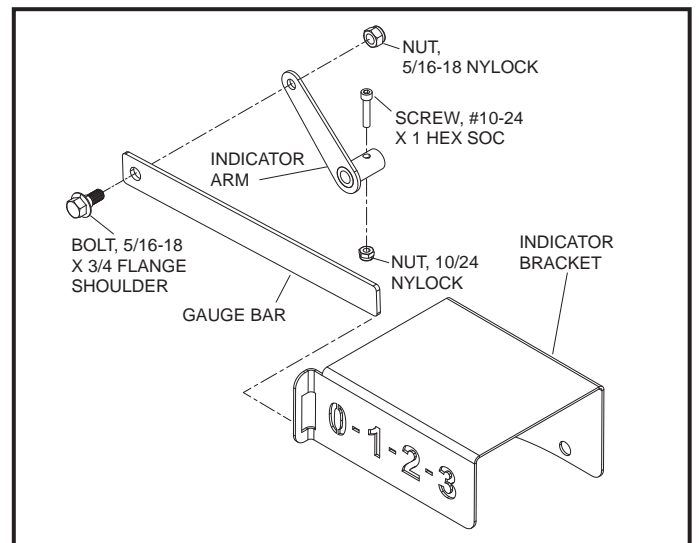

Figure 29: Damper position indicator installed
- Install and attach the orange indicator bracket using the two removed 3/8" bolts at top of fan casting. (Figure 29)